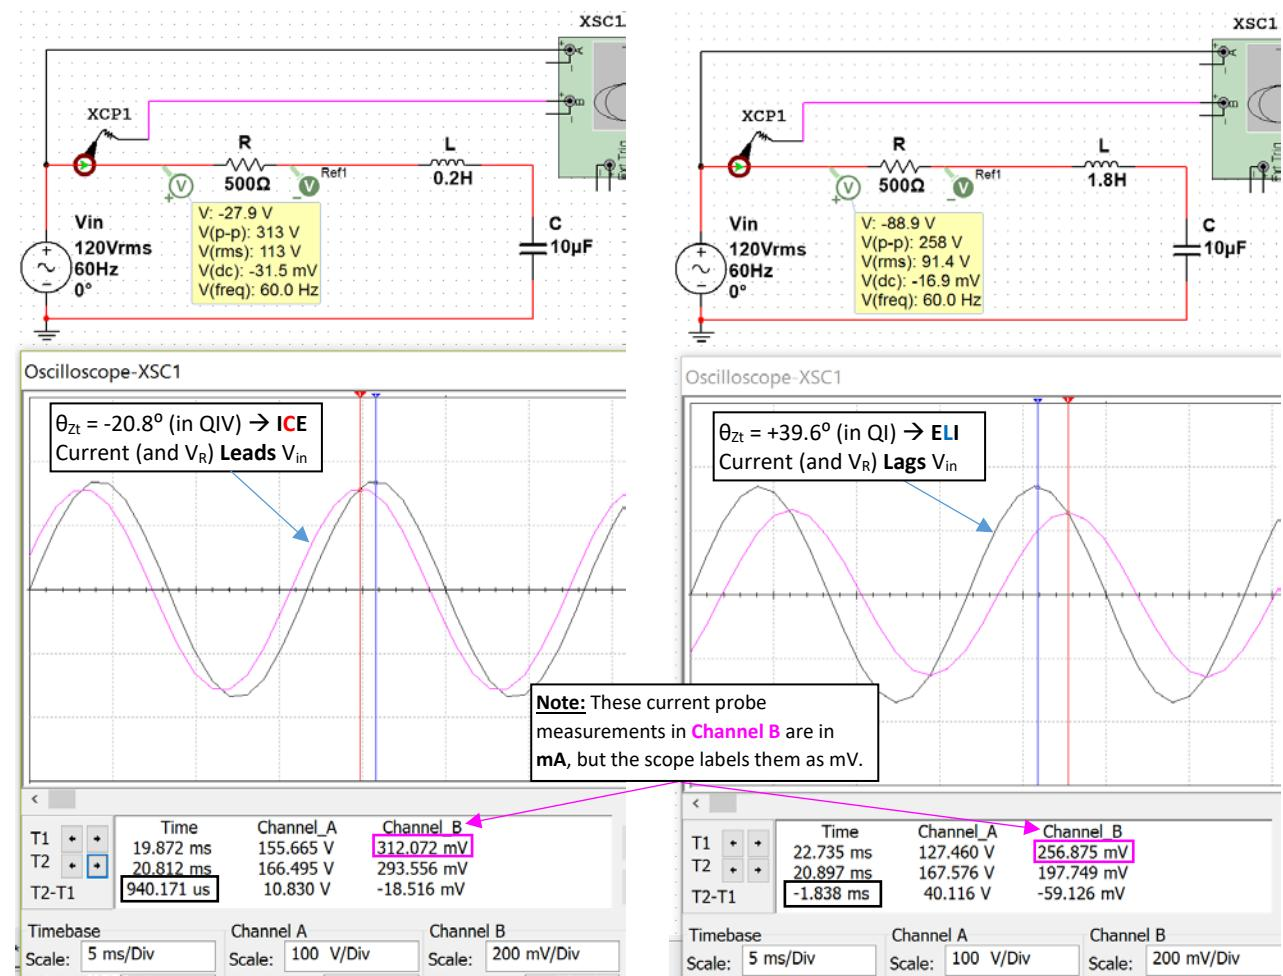

Figure 3.10: Current (Pink) and  $V_{in}$  (Black) Plots for Case 1:  $L = 0.2 \text{ H}$  (Left) and Case 2:  $L = 1.8 \text{ H}$  (Right)
* Multisim Current Verification for Case 1 and Case 2 current calculations (See Figure 3.10 below).